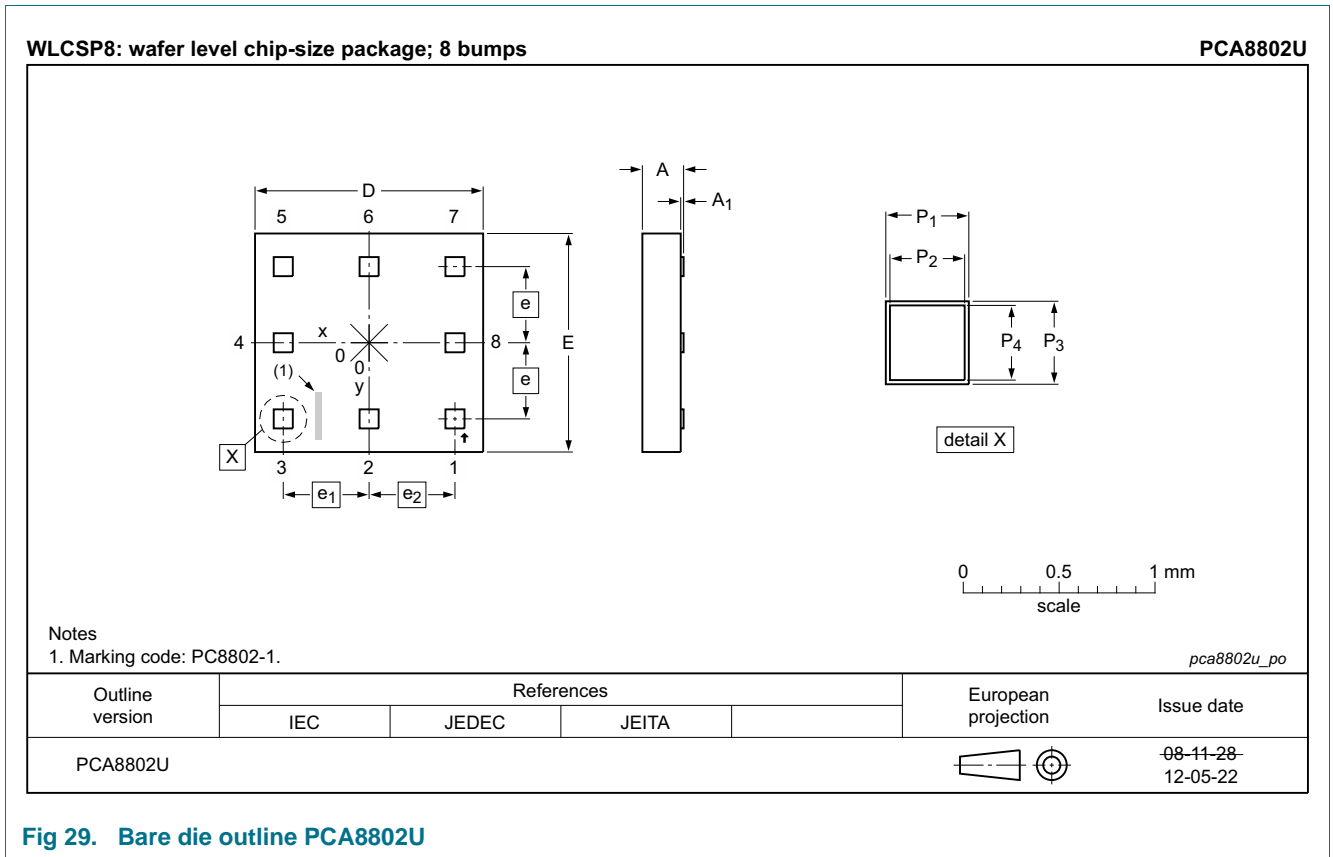

Fig 29. Bare die outline PCA8802U
- [1] All coordinates are referenced, in μm , to the center of the die (see Figure 29).